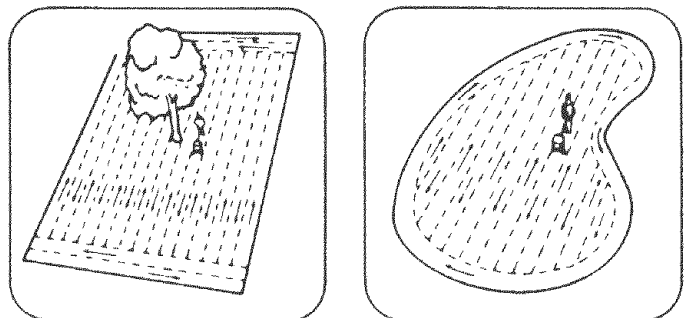

FIGURE 6
- For easiest application, spread across the shortest edges of lawn first, making two "header" strips for a turning area, and then spreading between the header strips. See figure 6.
- If lawn is odd shaped, spread a border around the edges and then spread between the border. See figure 6.